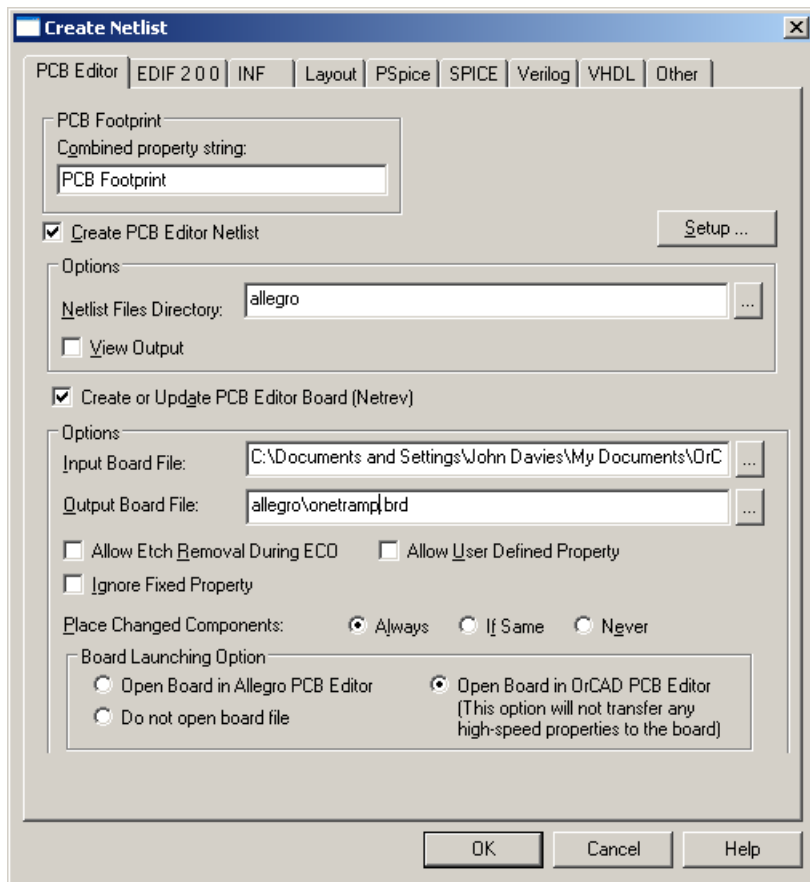

Figure 7. Completed dialogue box for netlisting the design and sending it to PCB Editor. Your file names will be different.
2. Select **Tools > Create Netlist...** from the menu bar, which brings up a dialogue box as in figure 7 on the following page. Make sure that the PCB Editor tab is active.
9. The entries in the dialogue box should now resemble figure 7 except for the pathnames. Click OK to dismiss this dialog box and start the netlister.